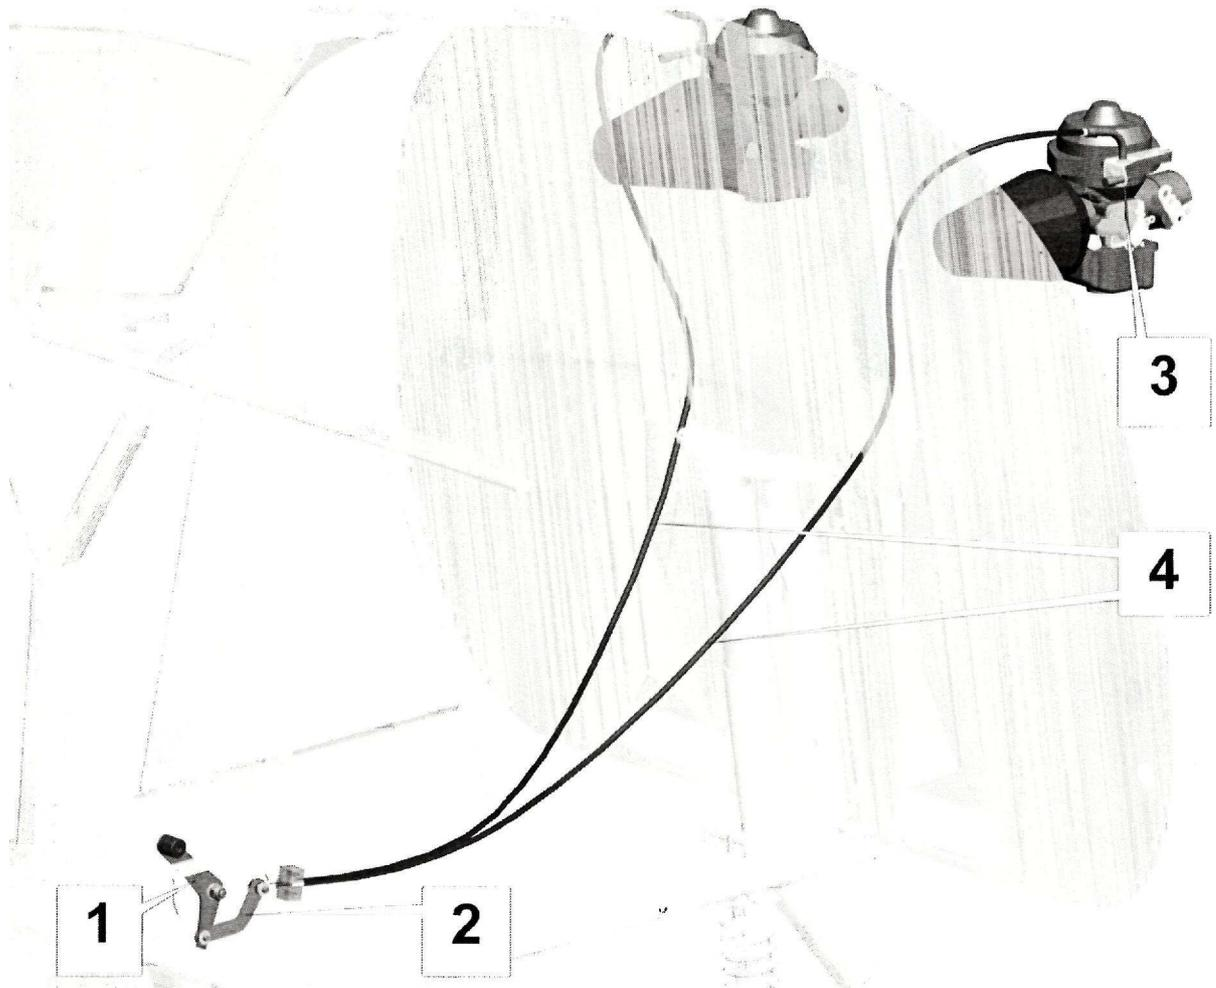

Fig. 10 Engine pre-start mixture control
Engine pre-start mixture control (**Fig. 10**) is achieved using the choke control lever (1), connected with cables to the choke control arms of the right (3) and left (4) carburetor. The cables are passed through the flexible sheaths — the right (5) and the left (6) one.